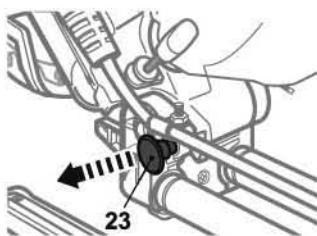

Fig. 37
- Place the workpiece flat on the turntable (14) with one edge against the fence (16).
- Adjust the plate (28c) and the bracket (28e) to the desired height (Fig. 37) and then secure the workpiece with it.